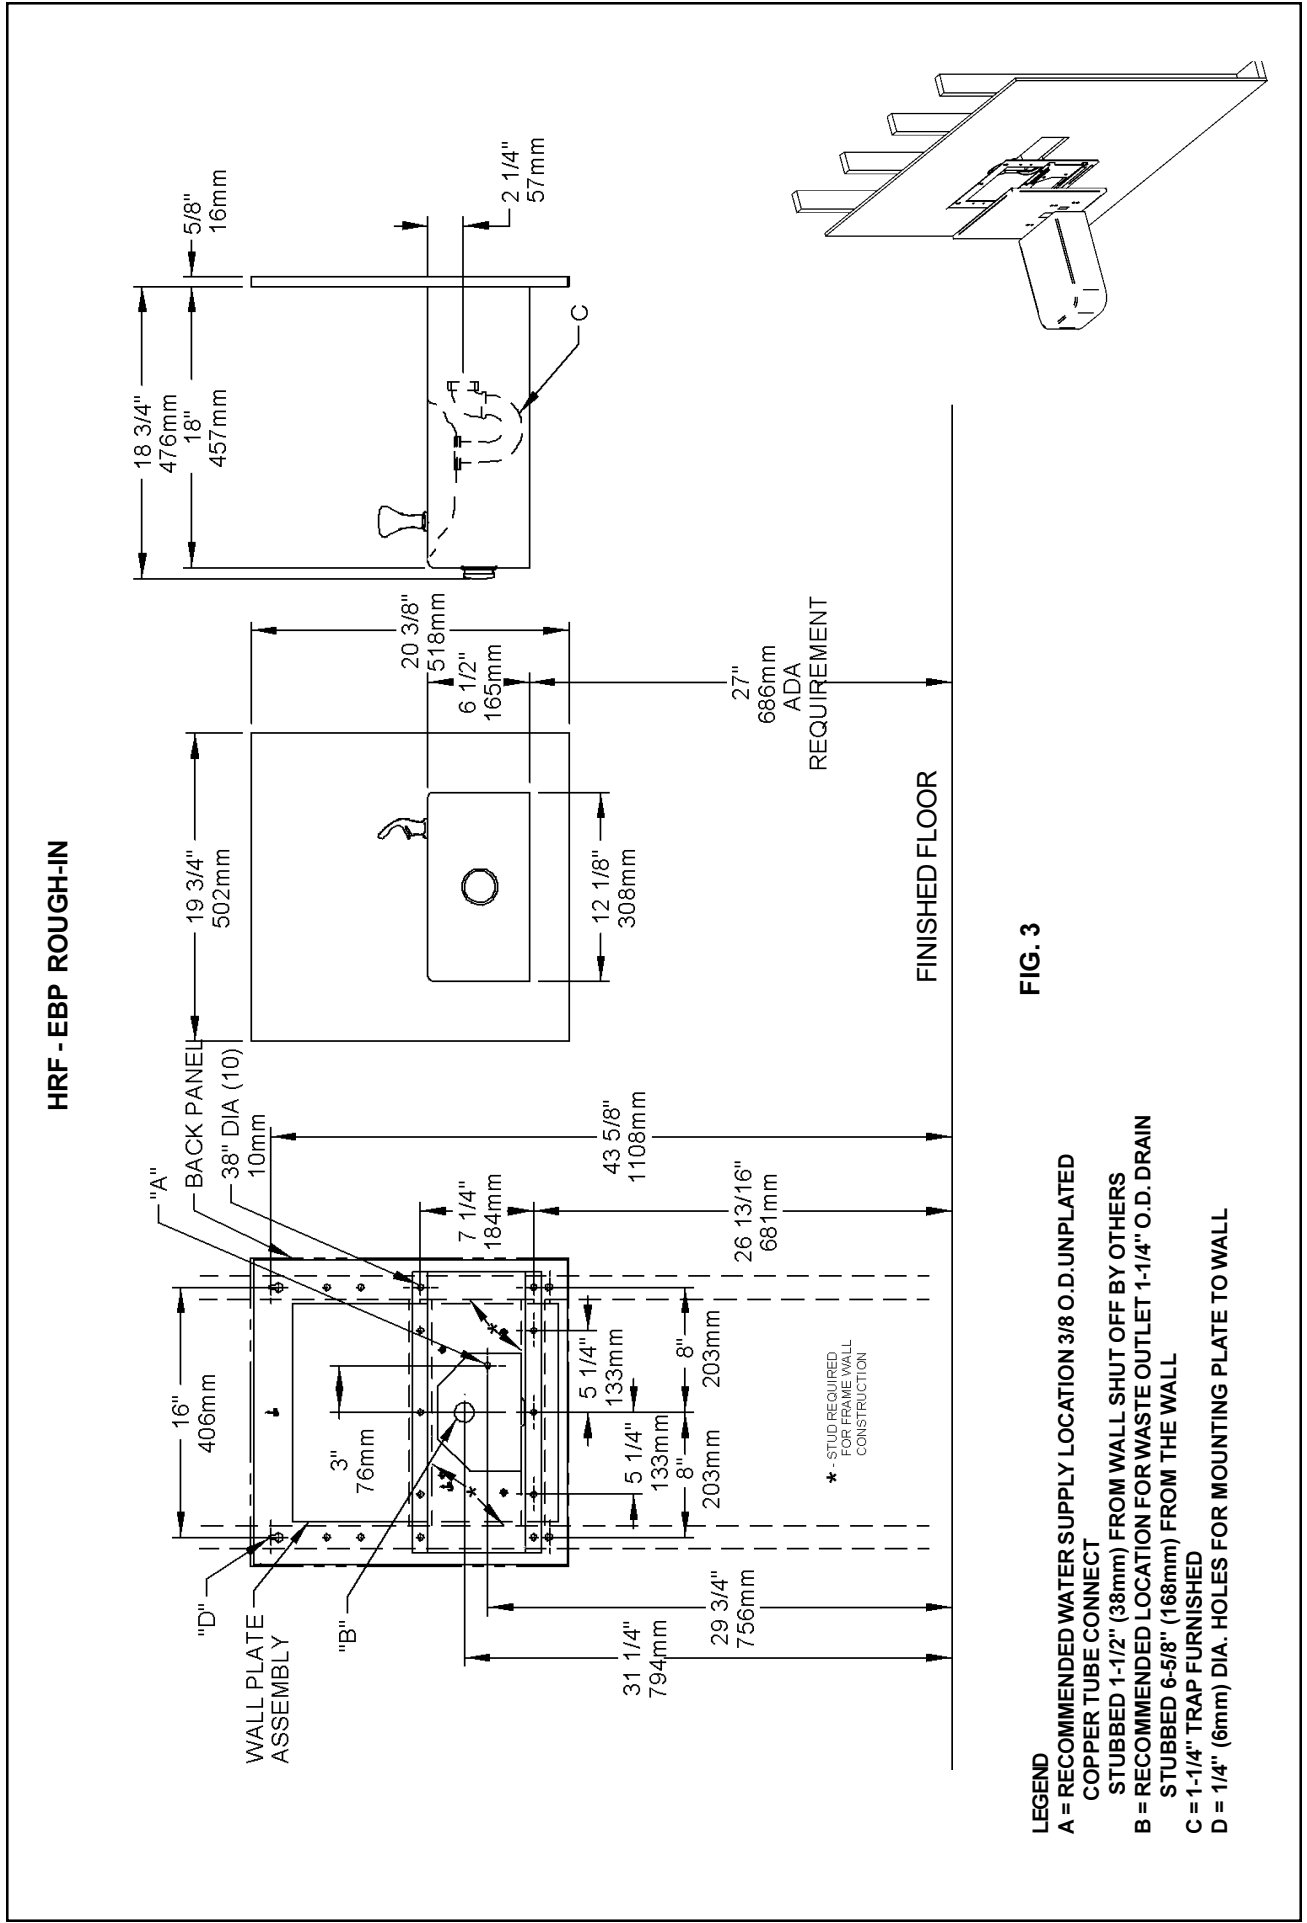

FIG. 3
4. **Install rough-in plumbing** as shown in Fig. 3, 4, 5, or 6. Waste line should extend a minimum of 2" (51mm) thru the back panel. Run supply water inlet line thru back panel. Install a service stop (not provided). Turn on supply water and flush thoroughly.
5. **Remove bottom access panel** from fountain basin and save the screws. Install the fountain to the back panel and wall using (4) 5/16" x 3/4" long bolts and washers (provided) thru holes in back panel. Tighten securely.